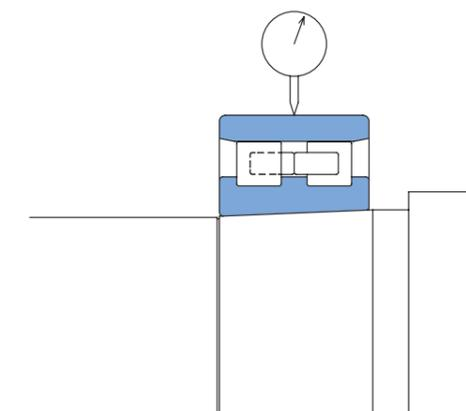

Figure 9.9 Radial Clearance Measurement
- Push the outer ring straight up 180° from its position of symmetry (directly below), and rotate it slightly left and right to take a reading of its maximum value [Figure 9.9].